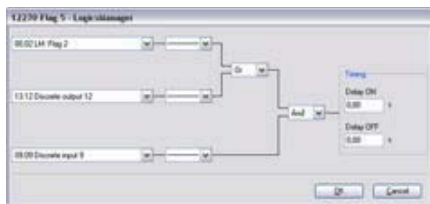

Fig. 195: LogicsManager function "Flag 5"
6. ➔ Configure the LogicsManager function "Flag 5" as shown in (Fig. 195).